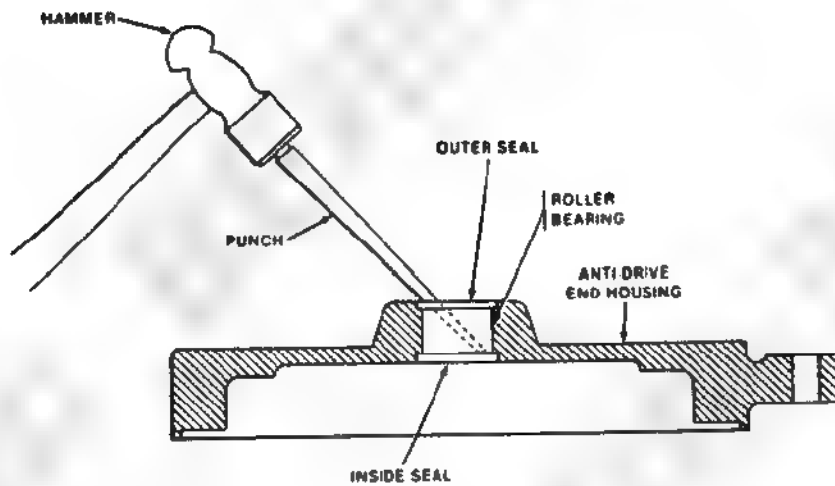

Figure 3-4. Inside Seal Removal from Anti-Drive End Housing.
(a) place anti-drive end housing (9) on workbench. Use a 3/8 inch punch to knock out inside seal (10) according to figure 3-4 Discard seal.